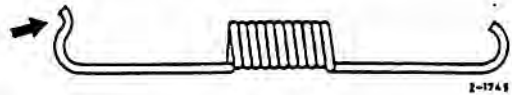

Fig. 42-9/13
**Note:** The curved end of the return spring must be attached to the front brake shoe. If the spring is installed in the wrong position the curved end may rub against the brake lever (Fig. 42-9/13).